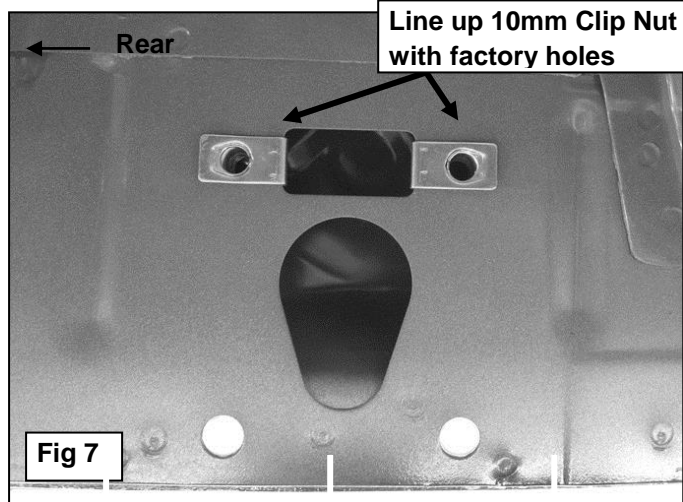

Fig 7
3. Move to the last mounting location at the rear of the cab. Repeat **Steps 2 – 3** for Rear Mounting Bracket installation, (**Figures 6 & 7**). **NOTE:** Each rear mounting location is made up of a rectangular hole with a round hole on each side and two holes through pinch weld, (**Figure 7**).